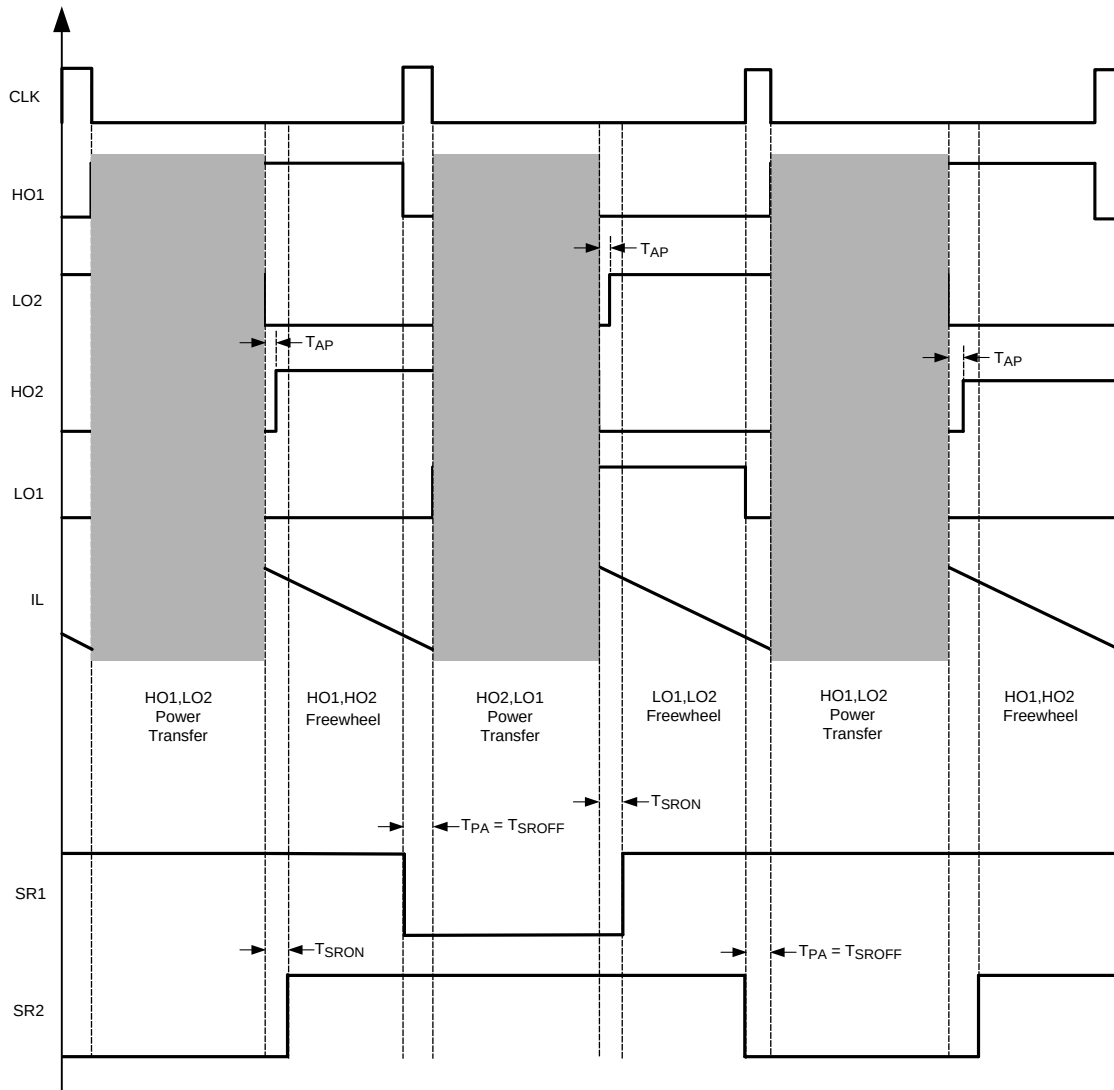

Figure 15. Synchronous Rectifier Timing Diagram
Synchronous rectification (SR) of the transformer secondary provides higher efficiency, especially for low output voltage converters, compared to the diode rectification. The reduction of rectifier forward voltage drop (0.5V - 1.5V) to 10mV - 200mV VDS voltage for a MOSFET significantly reduces rectification losses. In a typical application, the transformer secondary winding is center tapped, with the output power inductor in series with the center tap. The SR MOSFETs provide the ground path for the energized secondary winding and the inductor current. From Figure 15 it can be seen that when the HO1/LO2 diagonal is turned ON, power transfer is enabled from the primary. During this period, the SR1 MOSFET is enabled and the SR2 MOSFET is turned-off. The secondary winding connected to the SR2 MOSFET drain is twice the voltage of the center tap at this time. At the conclusion of the HO1/LO2 pulse, the inductor current continues to flow through the SR2 MOSFET body diode. Since the body diode causes more loss than the SR MOSFET, efficiency can be improved by minimizing the T_{SRON} period. In the LM5046, the time T_{SRON} is internally fixed to be 30ns. The 30ns internally fixed dead-time, along with inherent system delays due to galvanic isolation, plus the gate drive ICs, will provide sufficient margin to prevent the shoot-through current.
During the freewheeling period, the inductor current flows in both the SR1 and SR2 MOSFETs, which effectively shorts the transformer secondary. The SR MOSFETs are disabled at the rising edge of the CLK, which also disables HO1 or LO1. As shown in Figure 15, SR1 is disabled at the same instant as HO1 is disabled, and SR2 is disabled at the same instant as LO1 is disabled. The dead-times, T_{SROFF} and T_{PA} achieve two different things but are set by single resistor, RD1. Therefore, RD1 value should be selected such that the SR1/SR2 turns-off before the next power transfer cycle is initiated by T_{PA} .